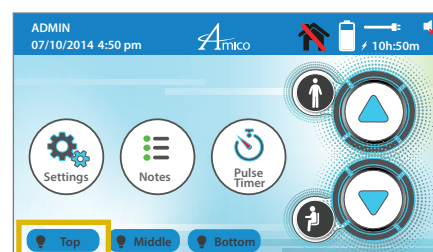

Figure 10
4. Select "Top" to illuminate LED (**Figure 10**).